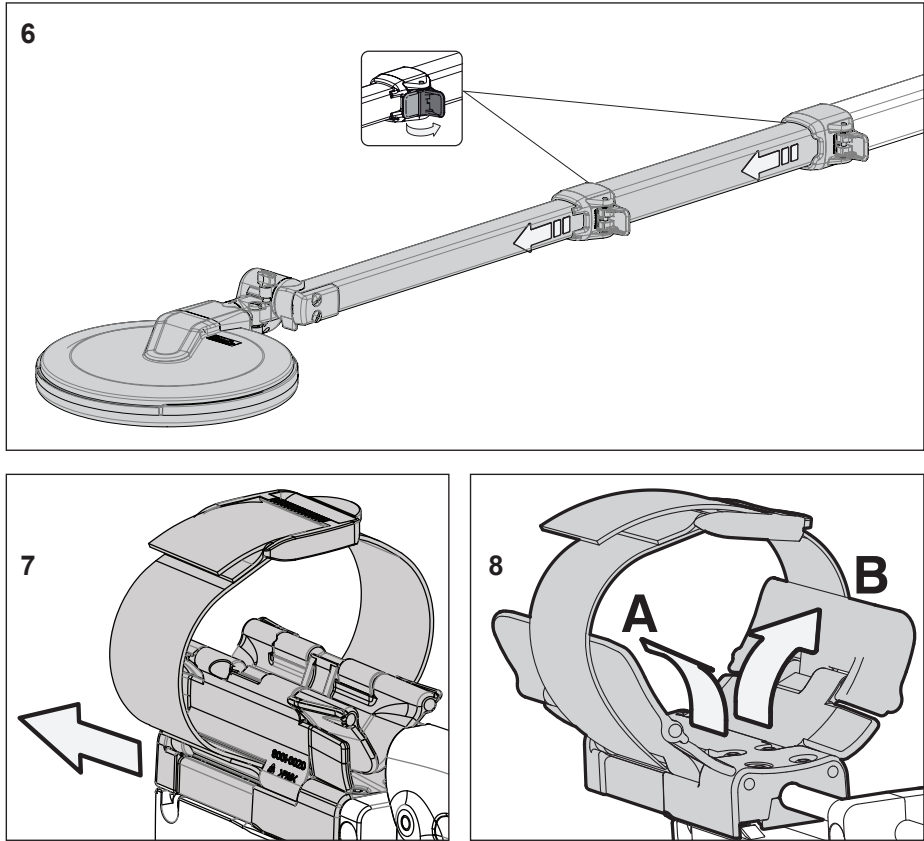

Figure 5: Guide to unfolding and adjusting the F3 COMPACT
- e. Using Figure 5 as a guide, unfold and adjust the F3 COMPACT.